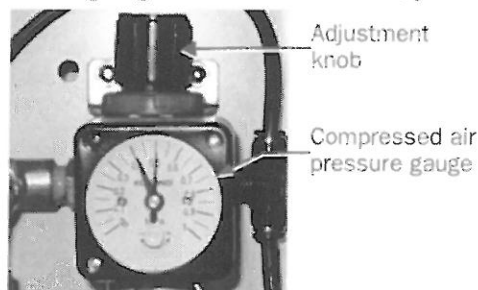

Fig. 6.5 Compressed air pressure regulator
2. Pull up the adjustment knob (Fig. 6.5).